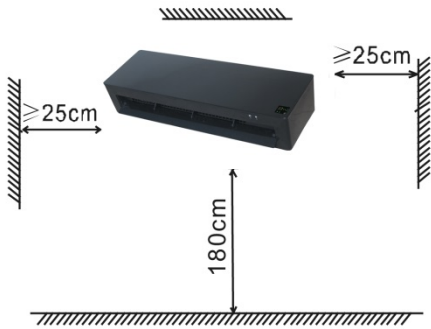

Figure 1
1. Select a space for installing the appliance (figure 1).